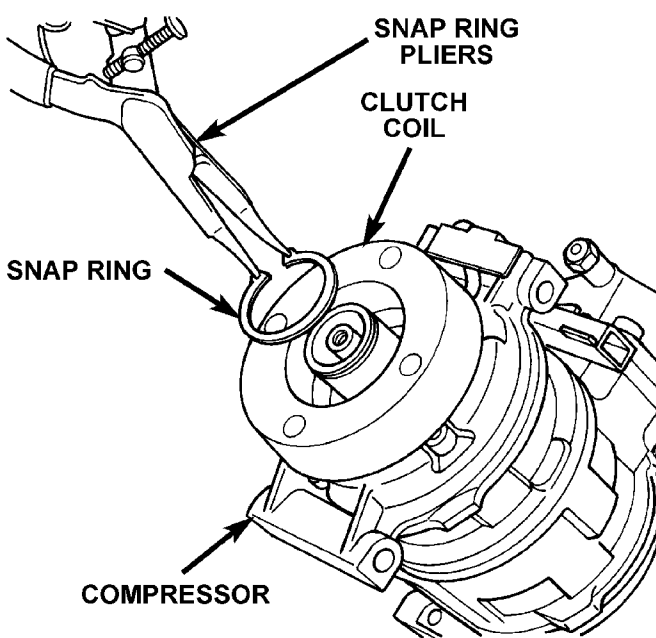

Fig. 26 Clutch Coil Snap Ring
(4) Remove coil wire bracket/ground clip screw and wire harness.
(5) Remove snap ring retaining field coil onto compressor housing (Fig. 26). Slide field coil off of compressor housing.